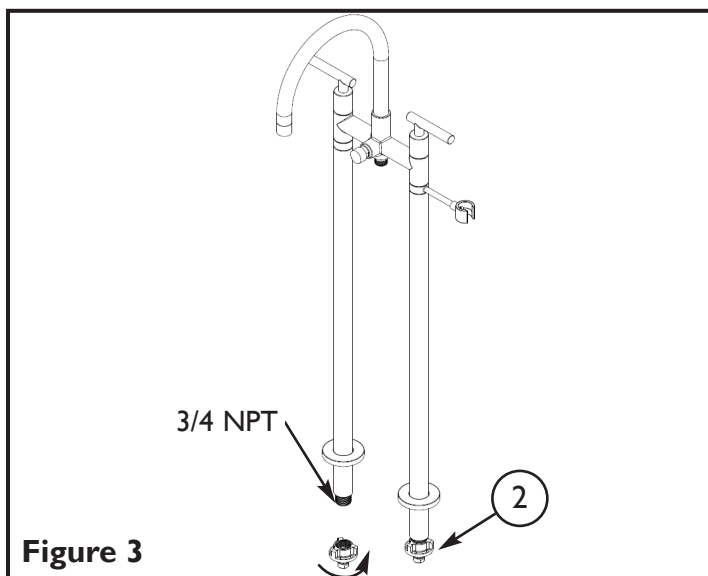

Figure 3
3. Attach the QUICK CONNECT ADAPTERS (2) to the two 3/4" NPT tub filler inlets. See **Figure 3**.